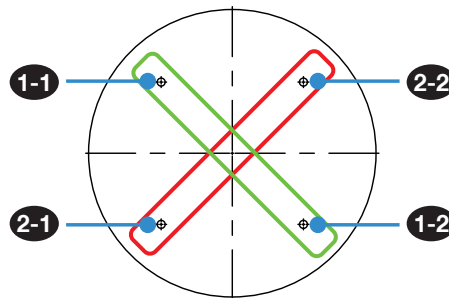
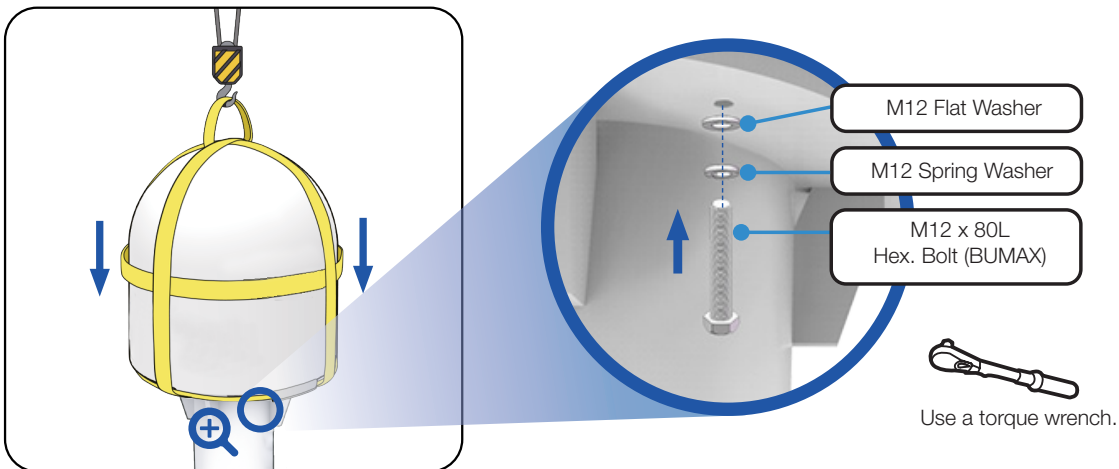

Figure 13: Installing Sequence of Bolts
Figure 14: Installing Bolts for Antenna-Mast Assembly
3. Apply Loctite #263 to the bolt threads, insert the bolts and washers from under the mast into the built-in nuts on the bottom of the radome (see Figure 14), and then lightly tighten them by hand. Use a crisscross sequence as shown in Figure 13.